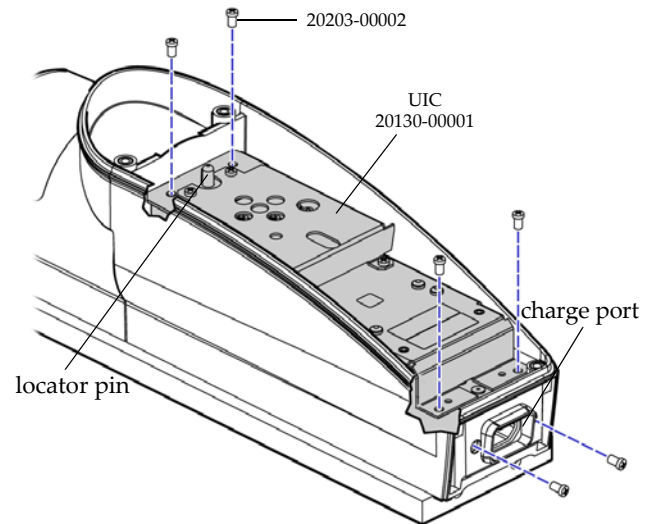

Figure 9-9: Remove or Install UIC
3. Use T-20 6-lobe wrench to remove (4) fasteners holding UIC to console housing.
4. Use 2.5mm hex wrench to remove (2) M2.5 fasteners from rear on either side of charge port. See Figure 9-9.
8. Thread (4) SHCS, M4 x 0.7 x 16, 6-lobe screws (20203-00002) through top of UIC into console housing. Refer to (B) in Figure 9-9.
10. Inspect the gasket at inside of charge port (Figure 9-9) to ensure it is not damaged. If damaged, replace console housing.
11. Thread (2) SHCS, M3 x 0.5 x 10, self-sealing, hex screws (20477-00001) through UIC into rear of console housing. Inspect for gasket at screw head to shank. If damaged or missing, replace fastener. See Figure 9-9.